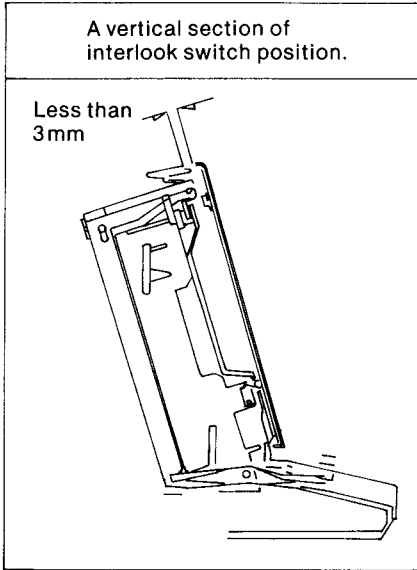

Fig. 3
- (9) With the disc compartment cover completely closed, check to see that the gap between the cover and front cabinet is 3mm or less. (See Fig. 3)